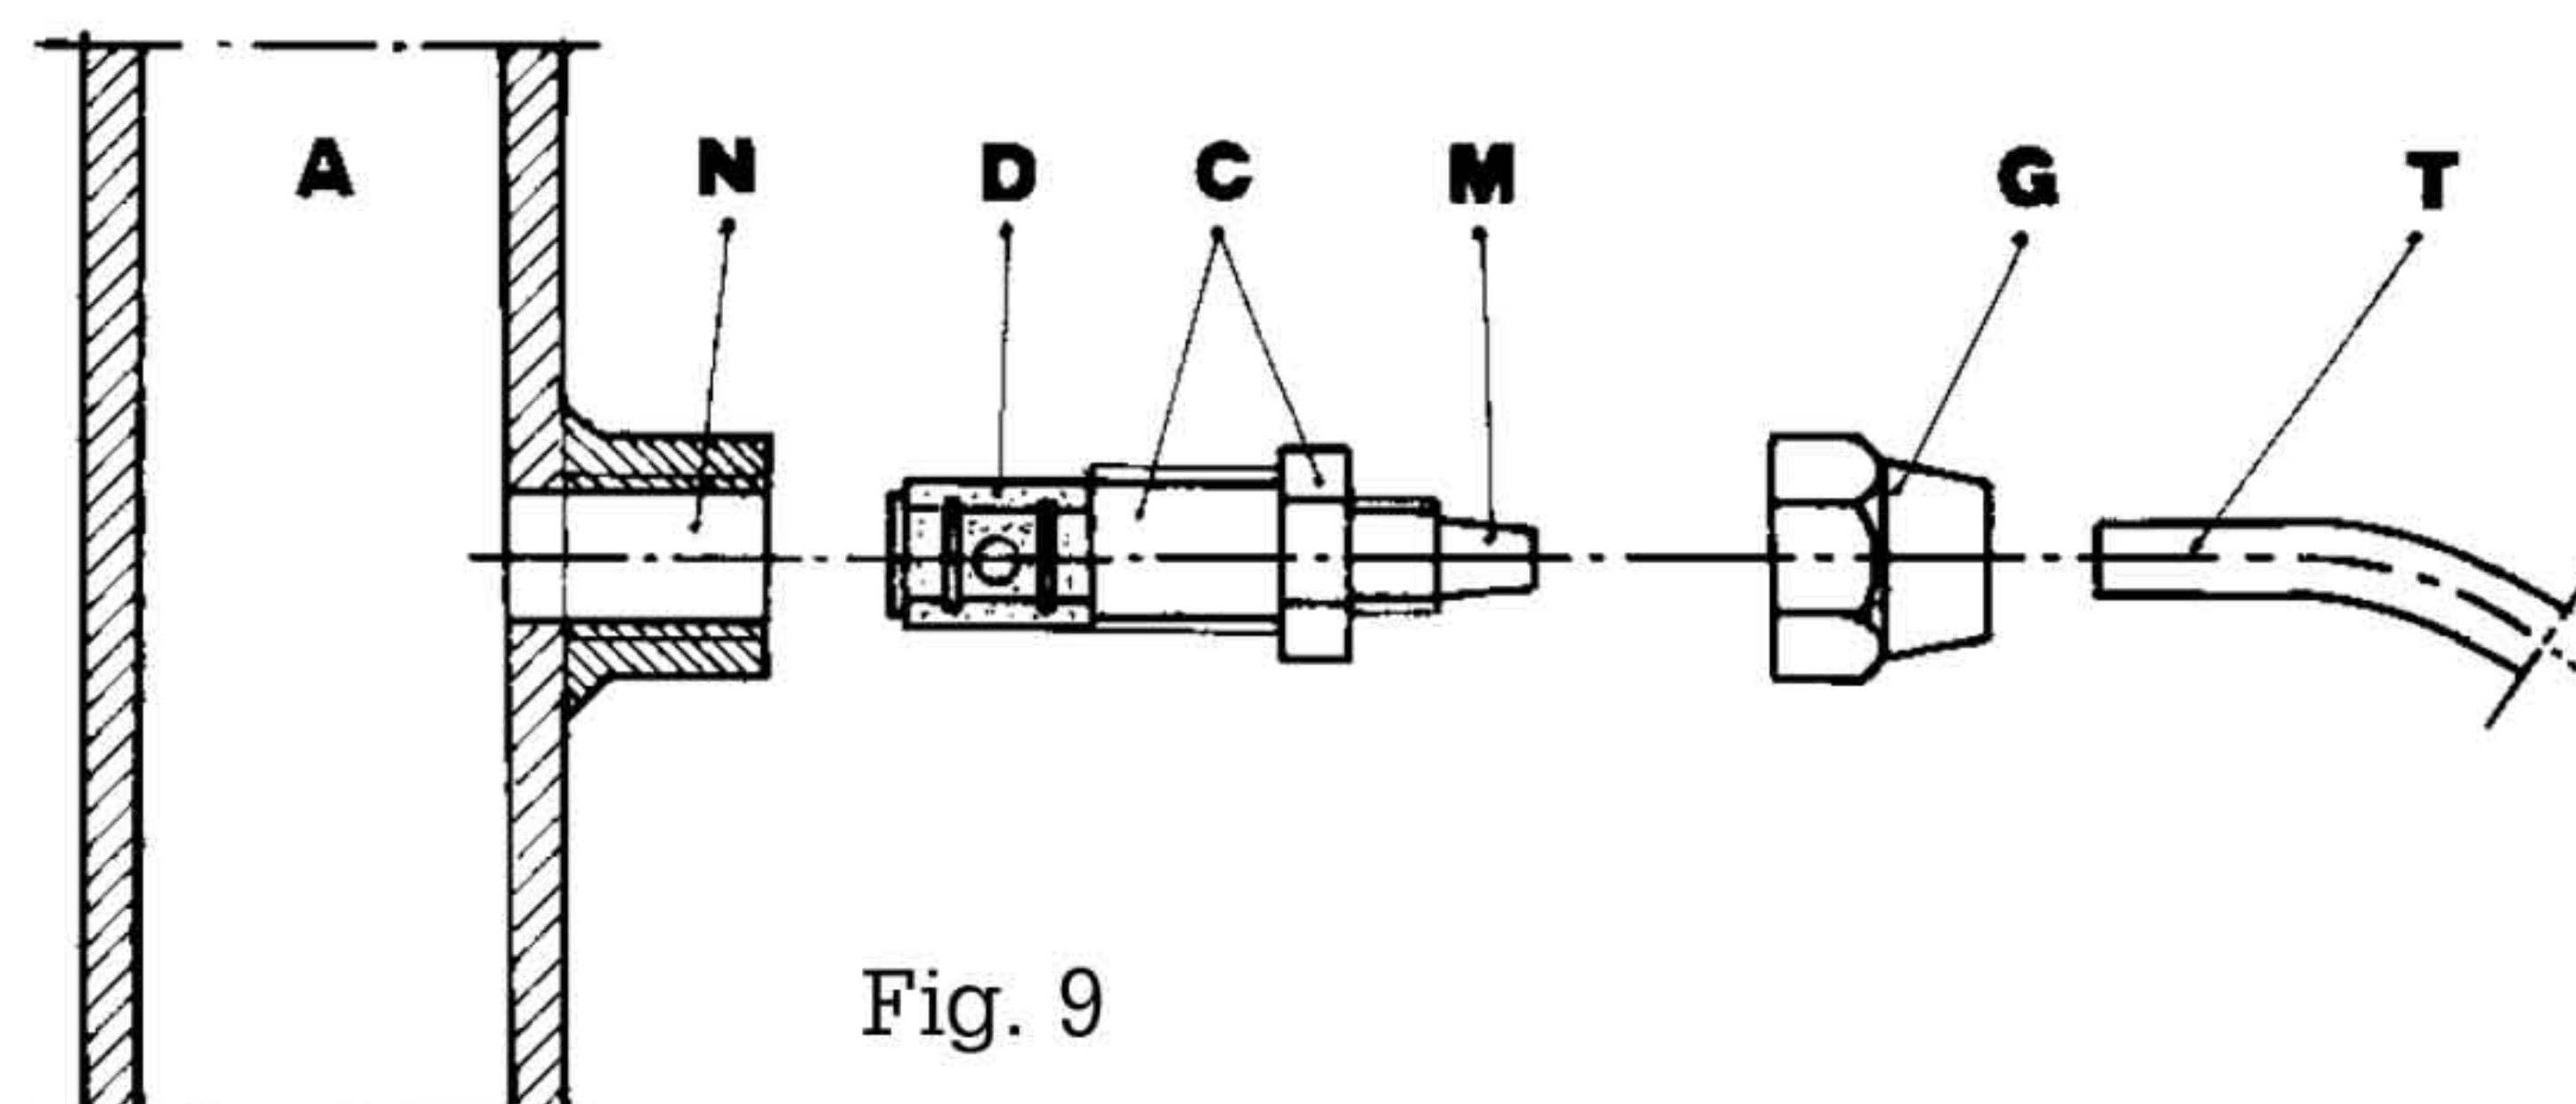

Fig. 9
- g. - Select the most appropriate injection point on a pipe of the plant to be treated and there fit a 3/8" female steel gas thread connector (similar to BSPm). This connector is not supplied with the pump. Screw the injection valve to the gas connector, inserting a gasket as shown in Fig. 9. Then connect the discharge hose to the conical connector on the injection valve and fix it with the supplied tube nut. The injection valve also acts as no return valve by means of a cylinder sleeve (elastomer, standard supplied in Viton).
DIAGRAM (Fig. 9)